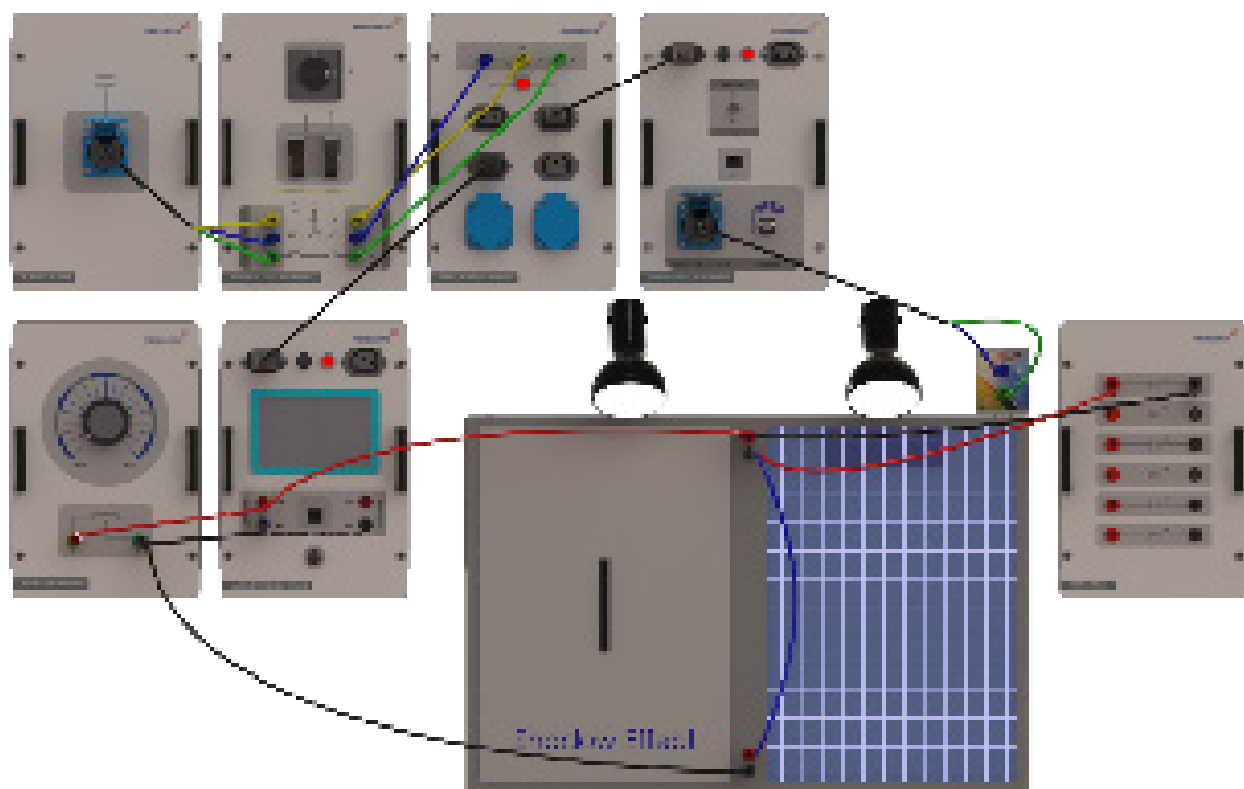

Figure-3
- 7) Use the shadowing device to shadow panel-2 as shown in figure-3. Record in chart-1 the value observed on the voltmeter placed on the AC/DC Measurement Module under this circumstance.